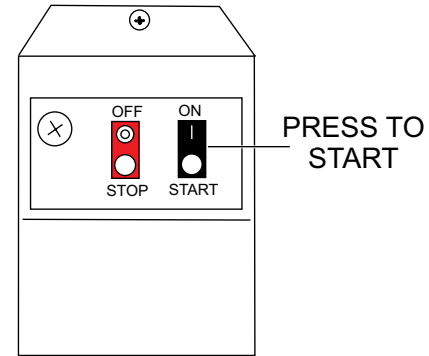

Figure 23. Electric Motor ON/START Switch
2. To start the electric motor, press the **BLACK** ON/START switch (Figure 23).